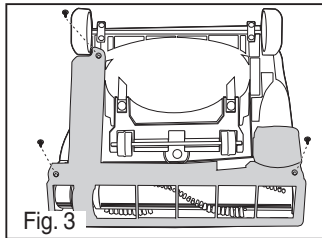

Fig. 3
- 3) Turn vacuum over. Remove 3 screws (Fig. 3) and lift off base plate.